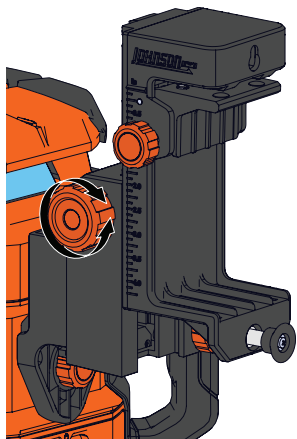

Figure 36
5. To adjust the position of the laser, turn the larger height adjustment knob. The measurements on each side of the track mount accessory (inches and cm) determine the distance the laser beam is offset from the track. (Figure 36)